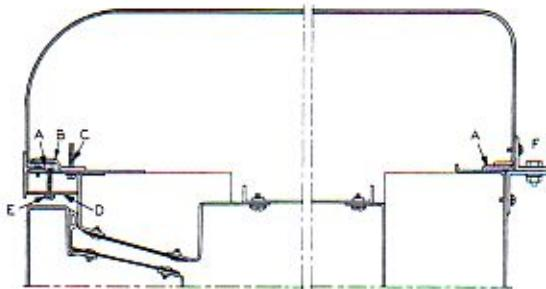

Fig. 272
The 1939 PB-12 and PB-16 cabinets and subsequent production have a top construction like that shown in Fig. 272. The inner sealing cover is not used. A sponge gasket (A) under the edge of